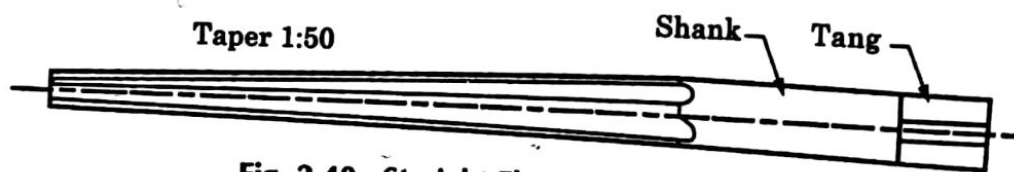

Fig. 2.40 : Straight Flute Taper Pin Reamer
4. Taper Pin Reamers : A straight flute taper pin reamer is shown in fig. 2.40. It carries a standard taper of about 20 mm per metre along its body. These reamers are used for finishing taper pin holes of standard sizes.